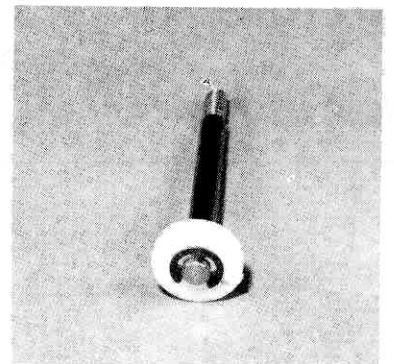

Fig. 90
□ **Fig. 90** Now slip the #6464 piston on each shaft, and then install the second #6299 E-clip. Make sure both E-clips are fully seated in the groove.